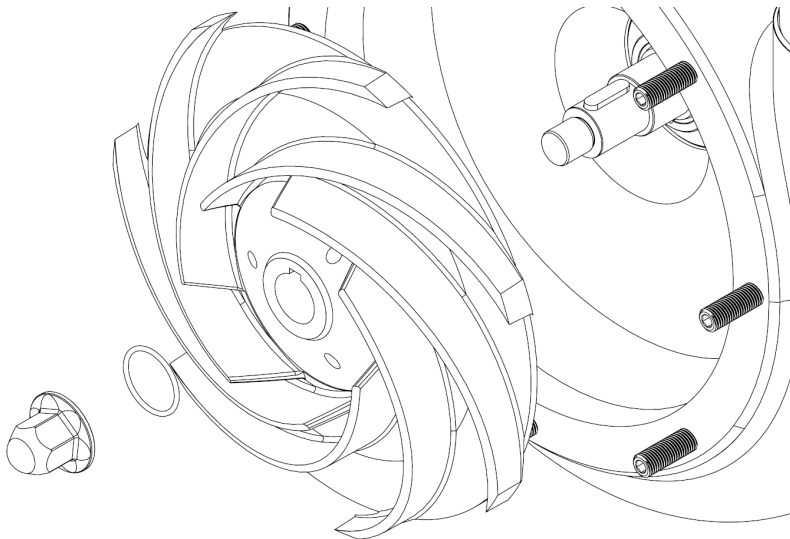

Figure 22
5. Remove the impeller nut gasket, impeller, and the impeller key. This process can be seen in Figure 22.